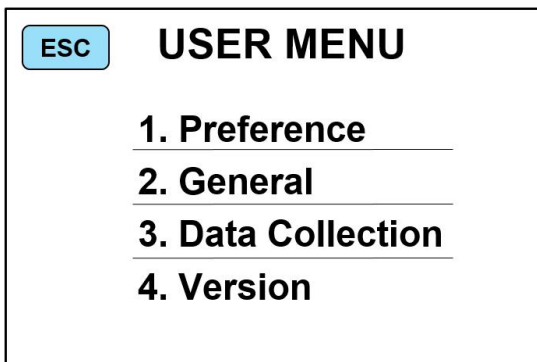
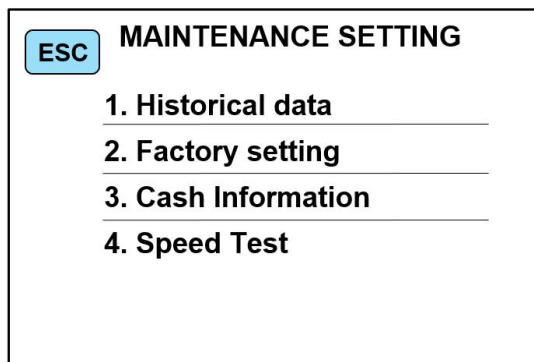

Figure 26
Figure 50
1) Press the “” key to enter the main interface of USER MENU, as shown in Figure 26 below, then press the “” key again for two consecutive times to enter debugging mode, as shown in Figure 50 below: